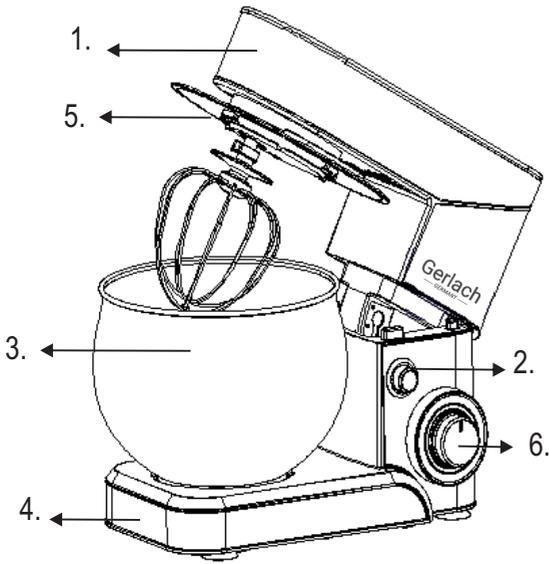

Fig. 1
DESCRIPTION OF THE DEVICE (figures 1 and 2 and 3)
4. Place the bowl (3) on the base (4), then turn the bowl (3) in clockwise until it locks.
5. To lower the top of food processor (1), press the tilt button (2) and push by one hand the top of food processor (1) down. A click sound will be heard when the head has reached the correct position. Make sure the bowl cover (5) is fixed in place (see figure 1).